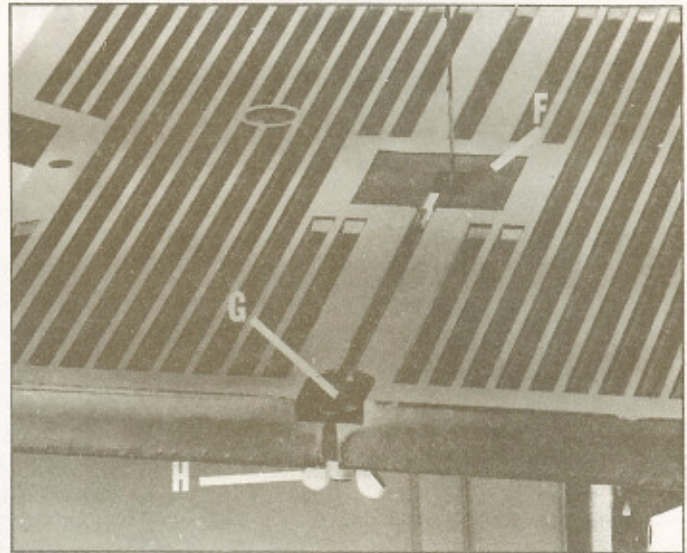

Fig. 5
5. Place the table insert (F) on the table, as shown in Fig. 5, and assemble the table alignment screw (G), washer and wing nut (H) to the table. The washer and wing nut (H) are positioned below the table.